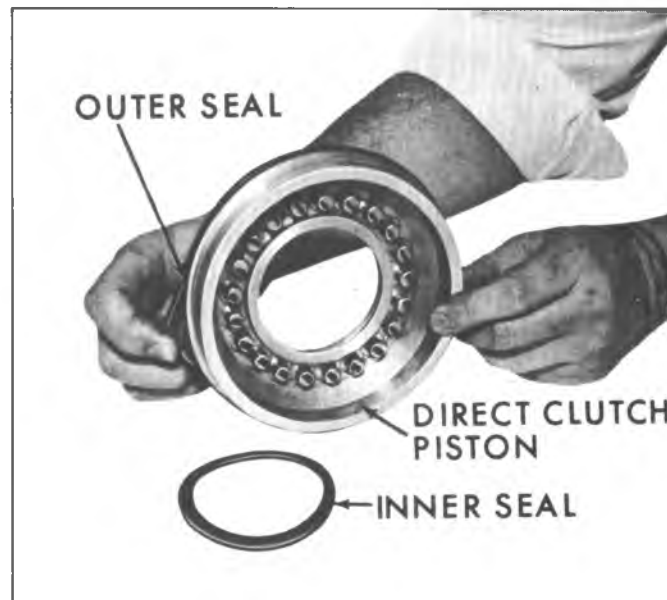

Fig. 73M-Removing Direct Clutch Outer and Inner Seals
9. Remove direct clutch piston outer seal and inner seal (fig. 73M).